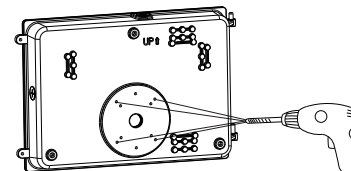

Fig. 1-2A
2. Drill an installation holes at the bottom of light, paste the EVA mat. (Fig. 1-2A&B)